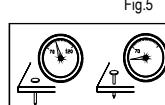

Fig.6
- Test for proper fastener penetration by driving nails into a sample piece of wood. If the fasteners do not achieve the desired penetration, adjust the air pressure to a higher setting until the desired penetration is achieved. Do not exceed 110 PSI (7.6 bar) at the tool. (See Fig. 6)